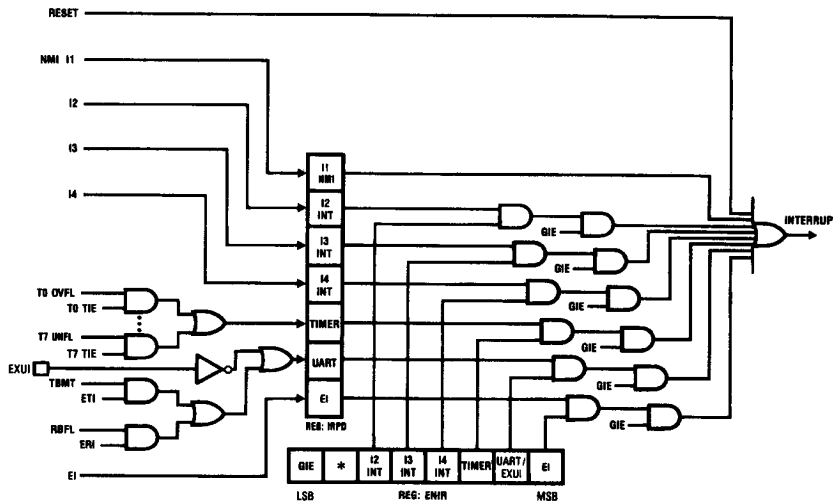

FIGURE 14. Interrupt Enable Logic
The Interrupt, once acknowledged, pushes the program counter (PC) onto the stack thus incrementing the stack pointer (SP) twice. The Global Interrupt Enable bit (GIE) is copied into the CGIE bit of the PSW register; it is then reset, thus disabling further interrupts. The program counter is loaded with the contents of the memory at the vector address and the processor resumes operation at this point. At the end of the interrupt service routine, the user does a RETI instruction to pop the stack and re-enable interrupts if the CGIE bit is set, or RET to just pop the stack if the CGIE bit is clear, and then returns to the main program. The GIE bit can be set in the interrupt service routine to nest interrupts if desired. Figure 14 shows the Interrupt Enable Logic.